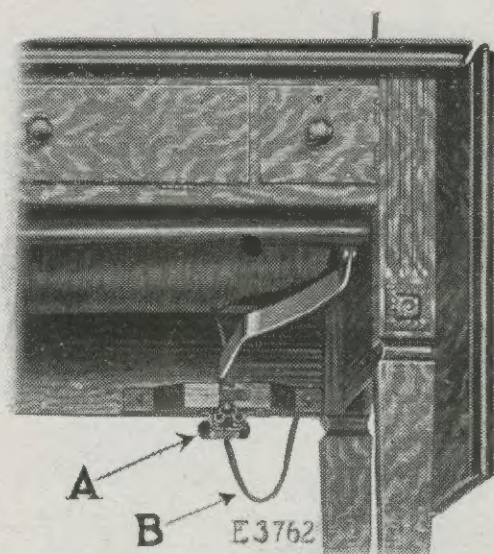

FIG. 7. ELECTRICAL CONNECTION
Attach the plug at one end of the long electric cord (B, Figs. 7 and 8) furnished with the machine,
to the nearest electric light socket and push the terminal block (A, Fig. 7) at the other end of the cord as far as it will go on the two connectors underneath the table, as shown in Fig. 7.
With the left hand grasp the machine around the front side of the arm, turn it slightly back on its hinges, and at the same time, with the right hand, raise the front hinged portion (B, Fig. 4, page 3) of the table, **being careful not to touch the electric lamp or shade**; then lower the hinged portion (B). Close the leaves, push in the supporting rod and move the knee lever up as shown in Fig. 7, page 6.